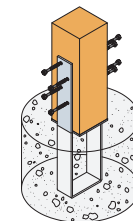

Fig 3: Install SSH screws
- Install 4 number SSH8.0X60 screws into each upstand flange providing a total of 8 fixings per CBQ (Figs 3 & 4)